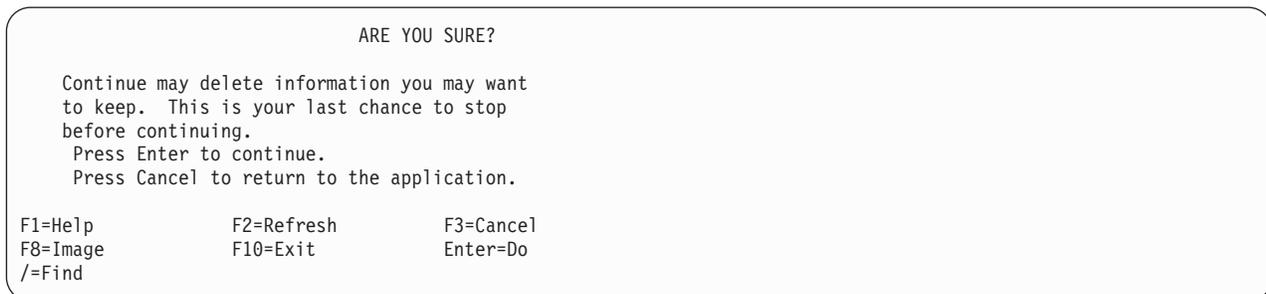

Figure 33. Verifying AOTM Change
4. Press **Enter**. You see Figure 33.